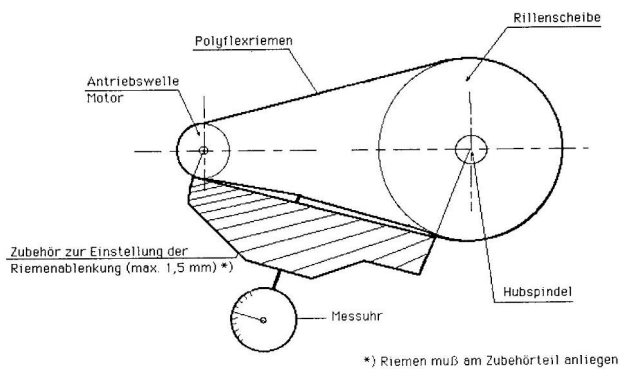

Figure 16: Measurement instrument
- The measurement device, as can be seen in Figures 16 and 17 on the polyflex belt.